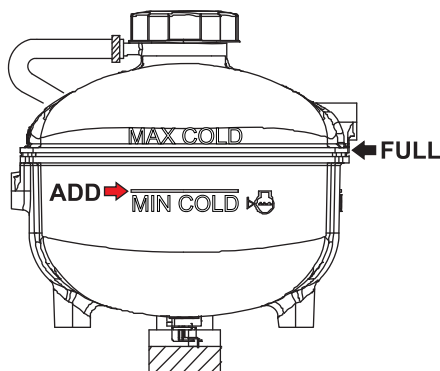

Figure 44. Coolant Reserve Tank
1. Verify that the coolant level in the coolant reserve tank is between the **FULL** and **LOW** markings as shown in Figure 44.